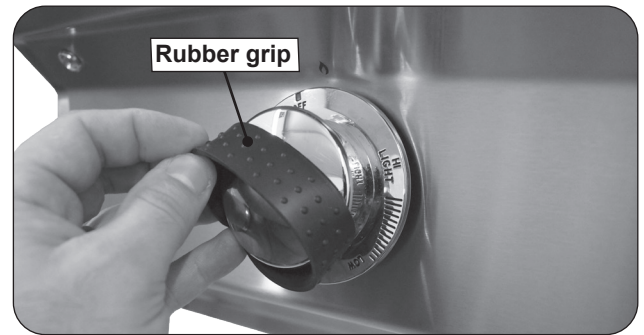

Fig. 33-1 Rubber grips removal
2. Remove the rubber grip from a control knob (see Fig. 33-1).